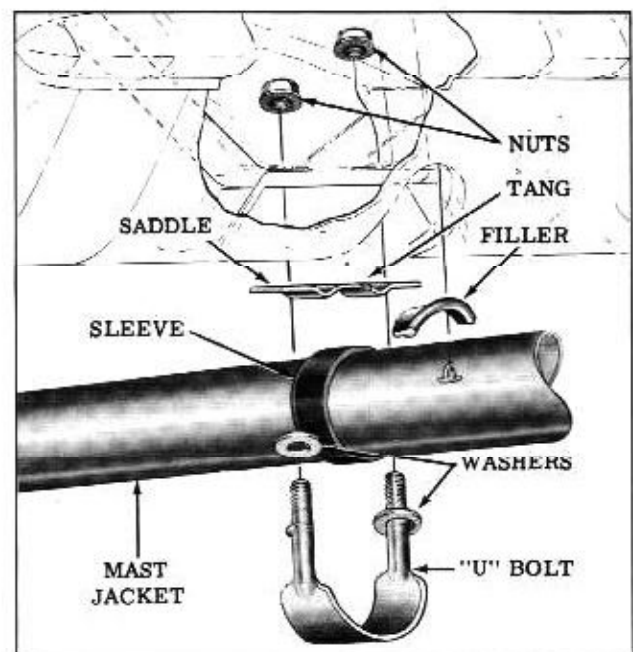

Fig. 4-15 Upper Column Attachment
5. Remove mast jacket to instrument panel "U" Bolt clamp, Fig. 4-15, and remove steering column assembly.
1. Place column assembly in position with tang on saddle, engaged in column. (Fig. 4-15)